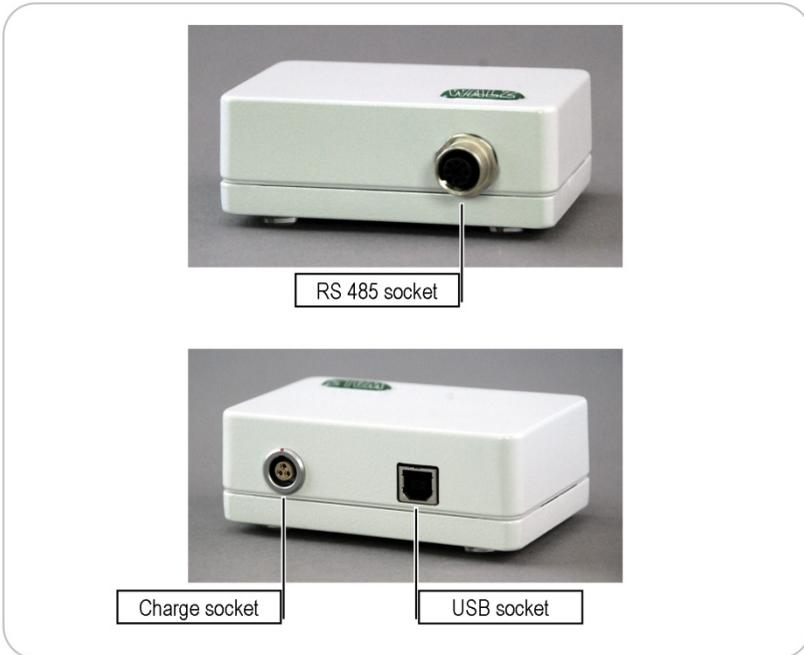
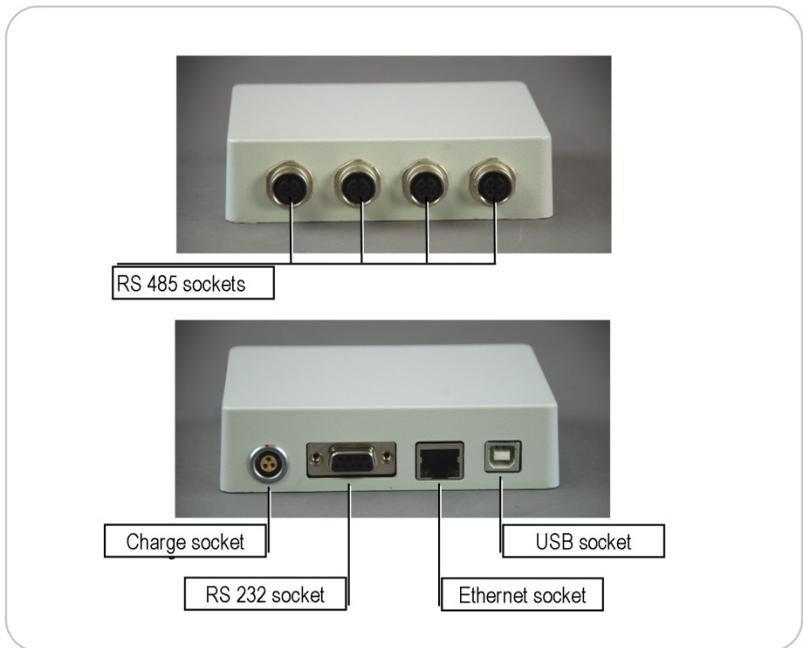

Fig. 6: PC Interface Box MONI-IB1
Fig. 7: PC Interface Box MONI-IB4/LAN
- USB connection between the PC interface box (cf. Fig. 6, Fig. 7) and computer using an AB-type USB cable. (The USB-0 does not require an extra USB cable.)
2. PC Interface Box MONI-IB1 (Fig. 6) (MONI-DA/S: MONI-IB1/S)
3. Interface Box MONI-IB4/LAN (Fig. 7)